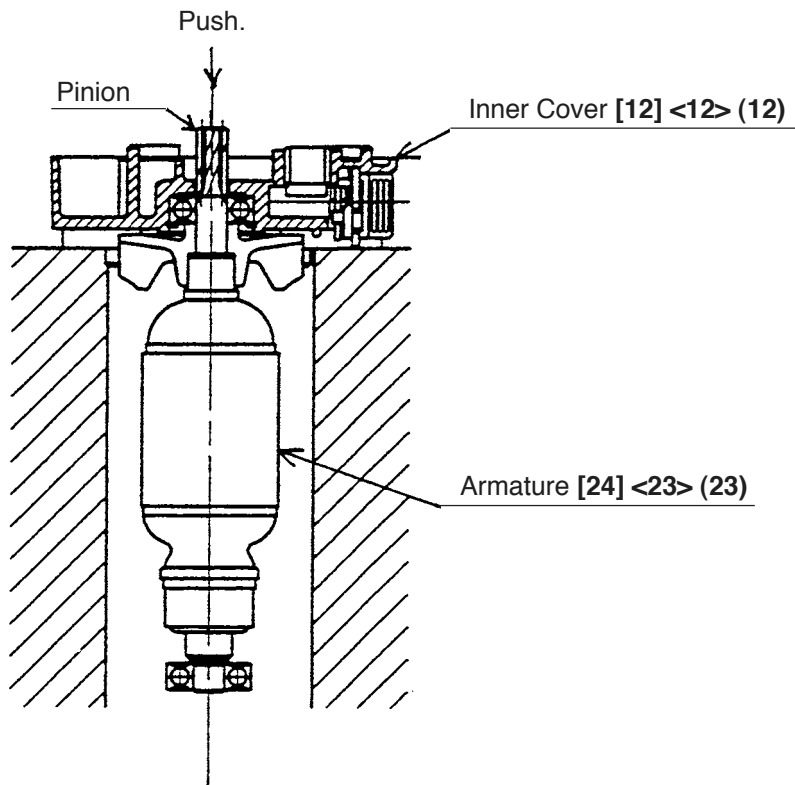

Fig. 6
(4) Removal of the armature from the inner cover
As illustrated in Fig. 6, support the Inner Cover [12] <12> (12) with a tubular jig, and push down on the top of the pinion of the Armature [24] <23> (23).